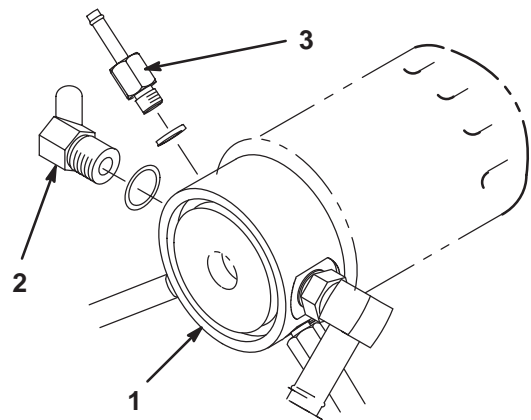

Figure 13
24. Install a 45° fitting into the transmission oil filter adapter. Position the fitting so that the opening points toward the manifold block (Fig. 13).
25. Install a straight fitting into the transmission oil filter adapter (Fig. 13).